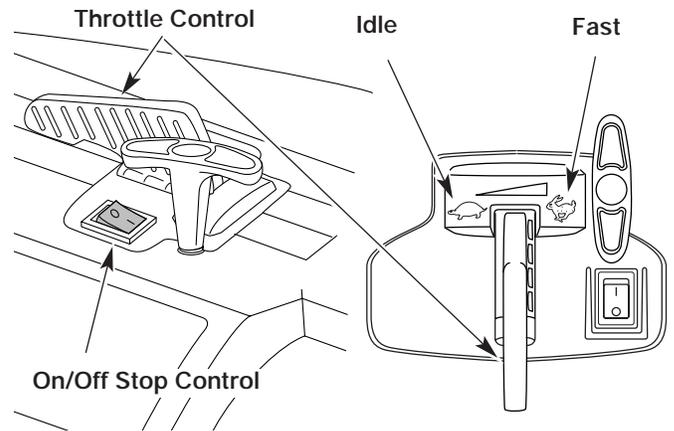
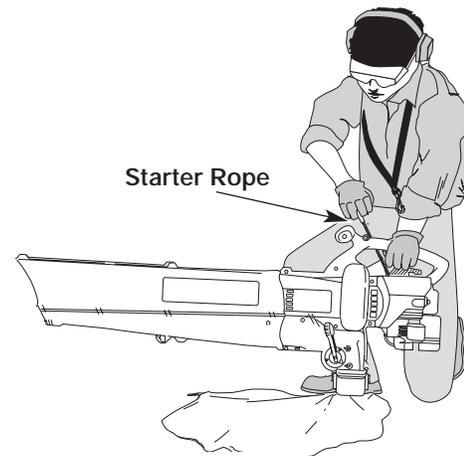

Fig. 9
Fig. 11
WARNING: Avoid accidental starting. Make sure you are in the starting position when pulling the starter rope (Fig. 11). To avoid serious injury, the operator and unit must be in a stable position while starting.
5. Place the unit in the starting position (Fig. 11). Move the throttle control to the fast position (🐿) (Fig. 9).
8. Pull starter rope briskly 1 to 3 times to start the engine (Fig. 11).
NOTE: Choking is unnecessary when starting a warm engine. Put the throttle control in the fast position (🐿) (Fig 9) and start unit with the choke control in Position **B**.
1. Press the On/Off Stop control in the **STOP (O)** position until the engine comes to a complete stop (Fig. 9).